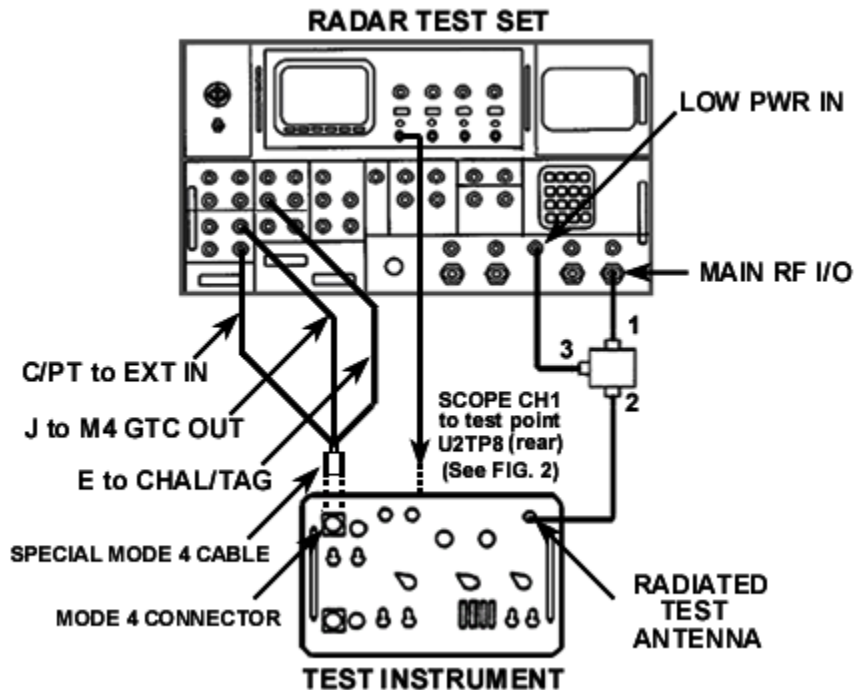

Figure 7. MODE 4 interrogation video - equipment setup.
- (1) Connect equipment as shown in figure 7.
(1) Connect equipment as shown in figure 7 except move oscilloscope **CH1** connection from U2TP8 to U3TP9 (fig. 2) on TI and connect oscilloscope **CH2** to radar test set **IFF VIDEO OUT FIRST REPLY**.
(2) Initialize radar test set by selecting **FUNCTION** and **ENTER**. Set radar test set **INTERROGATOR** menus as listed below:
If special MODE 4 cable is not available, refer to table 5 and figure 7 for connection of suitable coaxial test leads.